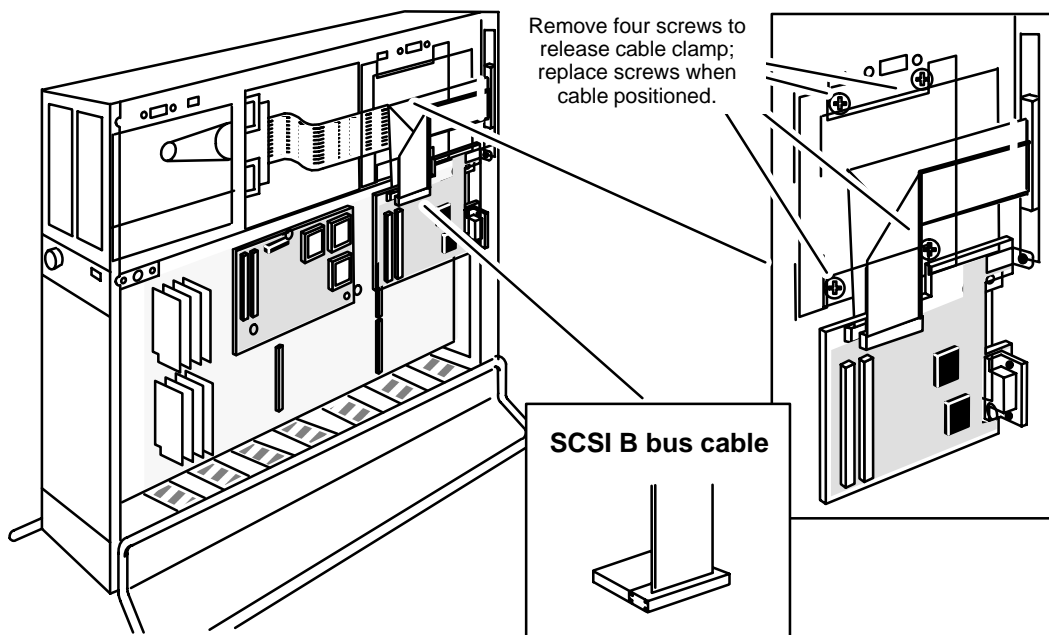

Figure 9-18 Attaching the SCSI B Ribbon Cable to the I/O Expansion Board
6. Remove the clear plastic cable clamp as shown in Figure 9-18.
7. Press the SCSI B ribbon cable against the COM port and SCSI A ribbon cables *without altering the cable fold*, and replace the cable clamp over all three cables. Figure 9-18 shows how to properly install the SCSI B ribbon cable.
8. Attach the ribbon cable from the SCSI B connector to the SCSI connector on the I/O expansion board as shown in Figure 9-18. Since the connector is keyed, you can only attach it one way.